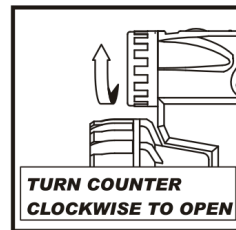

Fig.15
- Remove the light head by turn it counter clockwise. (Fig. 15)